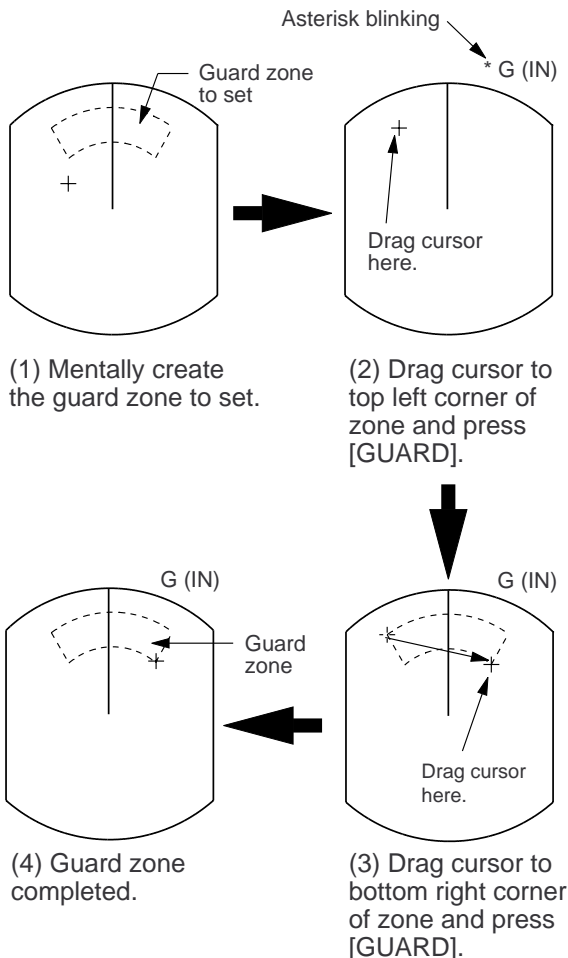

Figure 2-14 How to set a guard zone
- 1) Mentally create the guard zone you want to display. See Figure 2-14 (1).
- 2) Operate the omnipad to set cursor on top (bottom) left edge of the guard zone. Press the [GUARD] key. *G (IN) (or G OUT)), with asterisk blinking, appears at the top right-hand corner on the display. (The asterisk indicates the guard zone is partially set.) See Figure 2-14 (2).
- 3) Operate the omnipad to set cursor on bottom (top) right edge of the guard zone and press the [GUARD] key. The asterisk disappears. See Figure 2-14 (3).
- 4) Guard zone appears on the display. See Figure 2-14 (4).